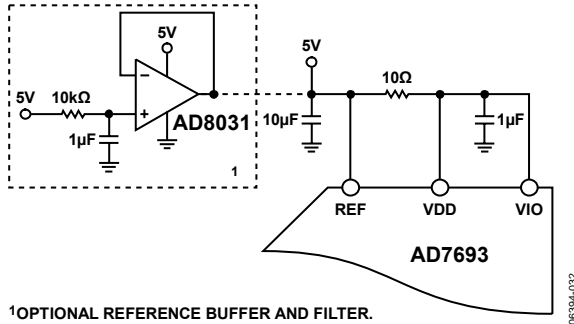

Figure 33. Example of an Application Circuit
For simplified applications, the AD7693, with its low operating current, can be supplied directly using the reference circuit shown in Figure 33. The reference line can be driven by
- A reference buffer, such as the AD8031, which can also filter the system power supply, as shown in Figure 33